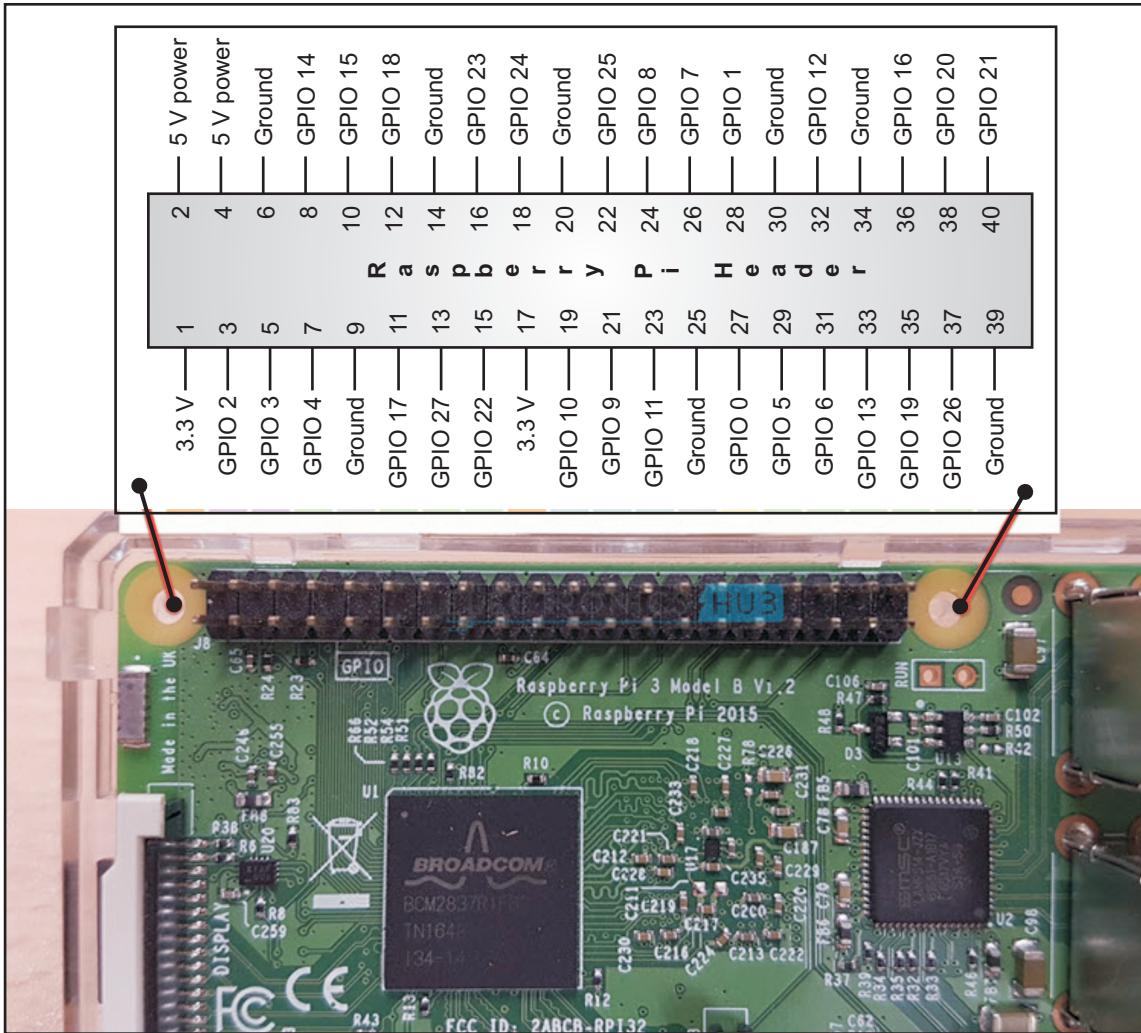

Fig. 4.1: Raspberry Pi Model B
- Fig. 4.1 shows Raspberry Pi Model B board.
- As shown in Fig. 4.1, the numbers in the centre which are circled are the physical pins of Raspberry Pi. These pins are known as Board Pins or numbers. The GPIO numbers such as Physical Pin 3 is GPIO 2 which is seen by the processor. These numbering is called as GPIO numbering or BCM numbering. So, while programming Raspberry Pi, user has to take care about these numbering and decide which type of numbering is used in programming.